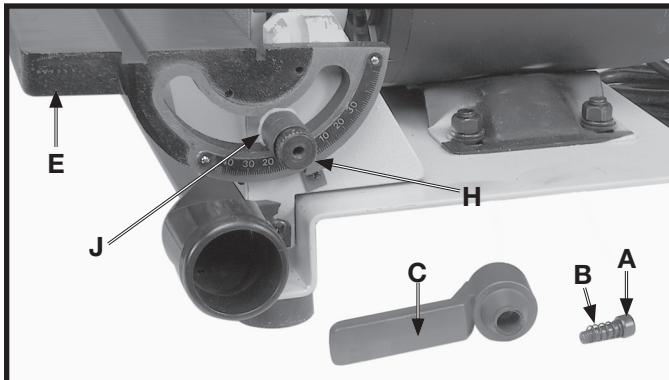

Fig. 15
- Place a 10mm flat washer (J) Fig. 15, onto locking stud (H) Fig. 15, and thread stud into base casting to hold table assembly (E) in place as shown.
- Place handle (C) Fig. 15, onto locking stud (H) and fasten with screw (A) and spring (B).